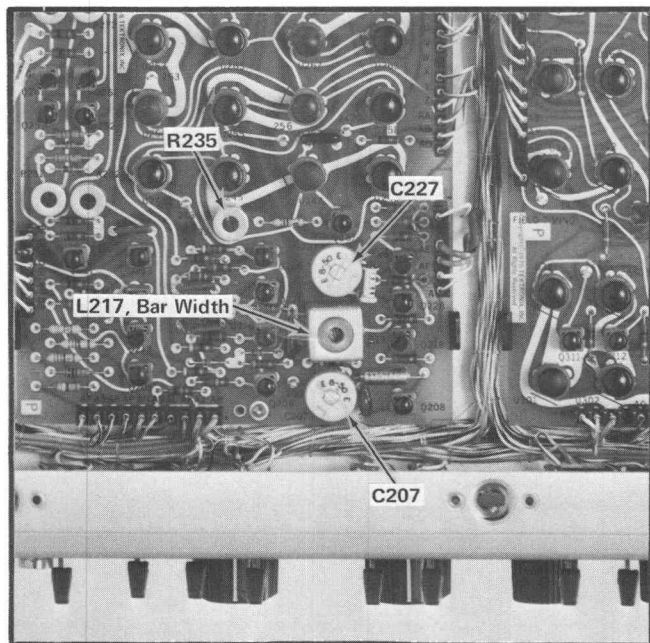

Fig. 6-15. Bar Timing board adjustment locations.
d. ADJUST—L217 (see Fig. 6-15) for $6.6 \mu\text{s}$.
g. ADJUST—R235 (see Fig. 6-15) to position the 50% point of the green-magenta to the reference established in step d.
c. ADJUST—C207 (see Fig. 6-15) for coincidence of blue and black level trailing edges.